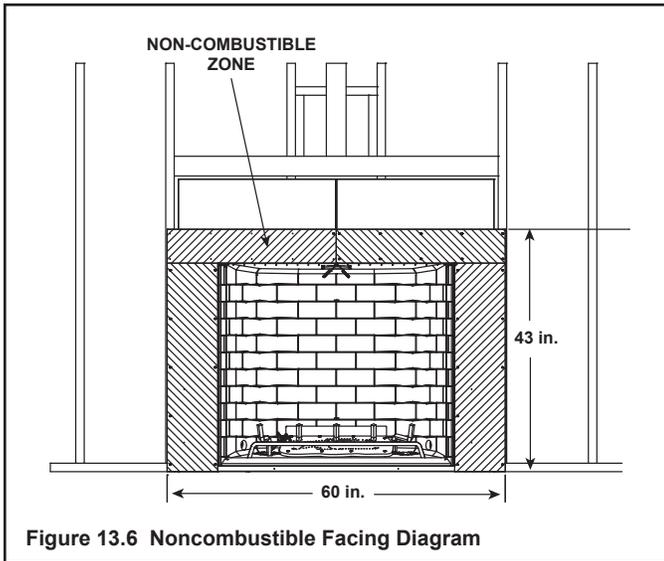

Figure 13.6 Noncombustible Facing Diagram
- Non-combustible materials MUST be placed around the fireplace opening (see Figure 13.6)